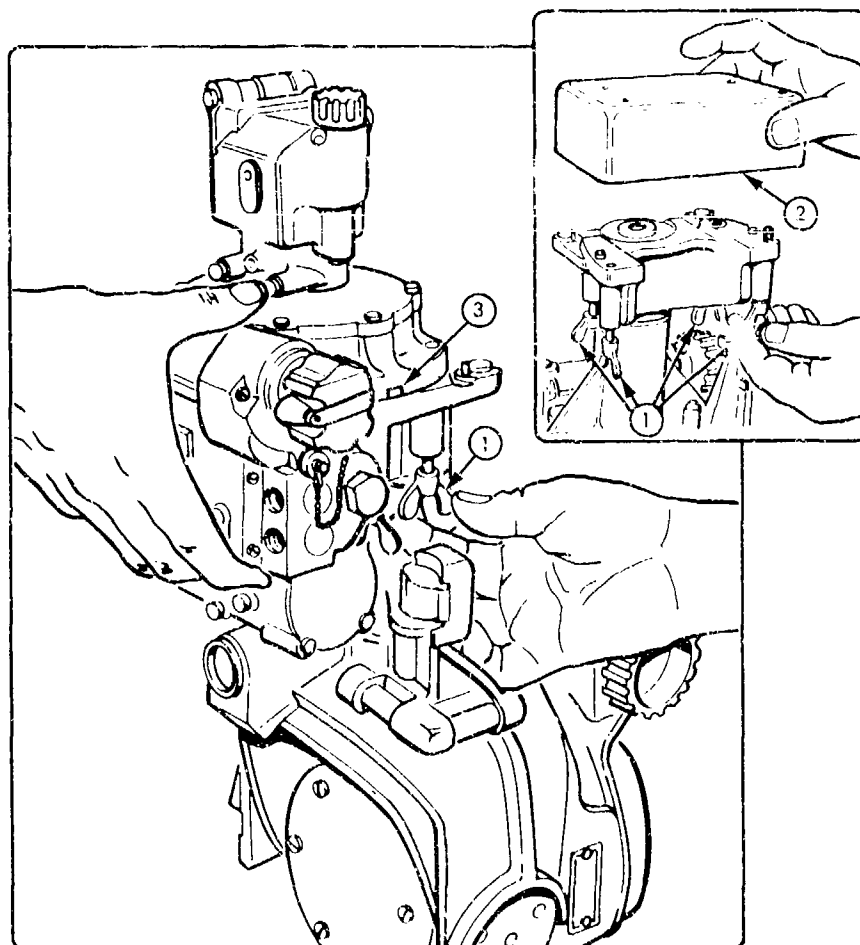

Figure 4-41. Installing the M113 panoramic telescope.
a. *Installing M113 panoramic telescope.* The M113 panoramic telescope (pantel) is installed by the gunner as shown in figure 4-41 and described in (1) through (10) below:
(1) Remove the canvas cover from the M134 mount.
(2) Loosen the four wing nuts (① fig 4-41) and remove the protective cover (② fig 4-41).
(3) Place the cover (② fig 4-41) in the stowage chest and remove the panoramic telescope from the stowage chest.
(4) Position the panoramic telescope by means of the locating pins (③ fig 4-41) on the M134 mount. Hand-tighten the four wing screws (① fig 4-41) to fasten the panoramic telescope in place.
the panoramic telescope and storing it, with the elbow telescope, in the carrying case on the wishbone trail. This continual removal and replacement has caused excessive wear on the M134 mount guide pins and in the mating grooves of the M113 panoramic telescope (fig 4-41). The result of this wear is a loss of boresight during firing operations. The amount of loss of boresight varies, but investigations have uncovered losses as great as 5 mils in deflection.